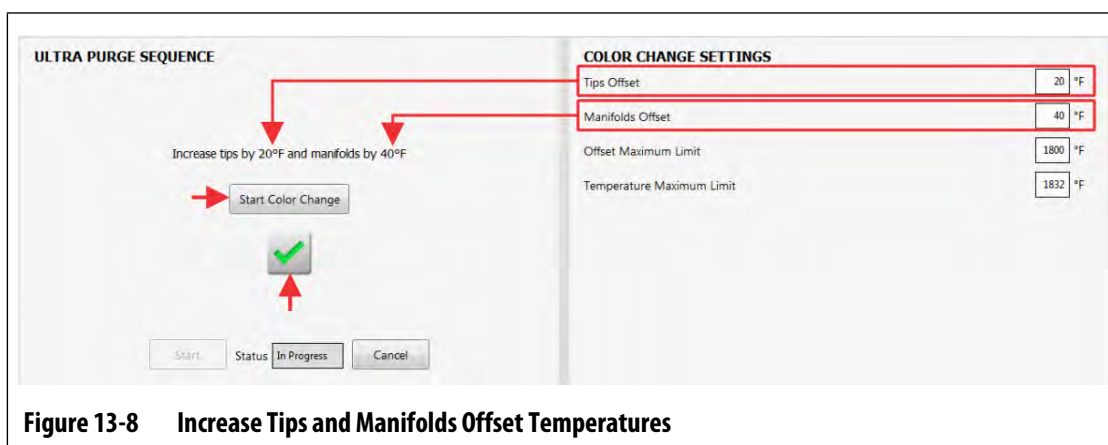

Figure 13-8 Increase Tips and Manifolds Offset Temperatures
- Increase the tips and manifolds offset temperatures, as necessary (refer to Figure 13-8).